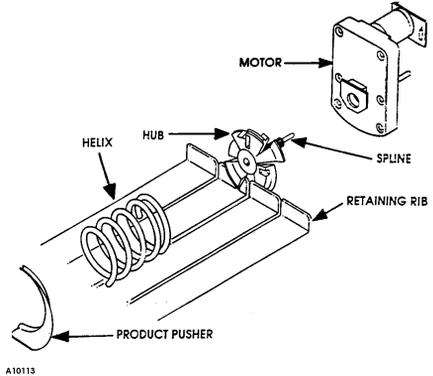

Figure 5. Motor & Auger
1. Remove the motor cover. See **Figure 5**